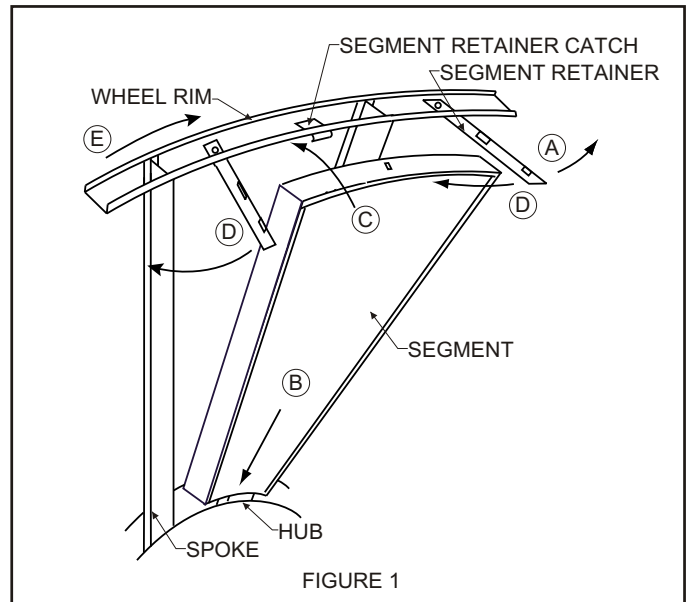

FIGURE 1
4. To install wheel segments follow steps A through E . **See Figure 1**. Reverse procedure for segment removal.